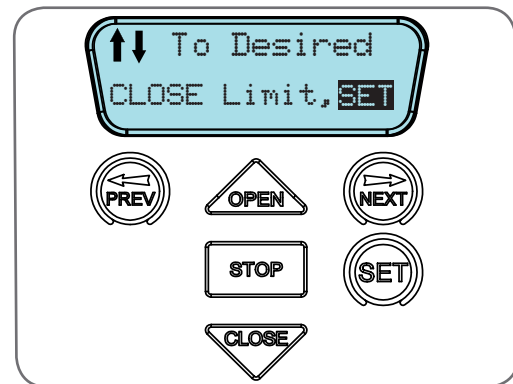

Fig 8.1
- b. After a short delay the MAIN SCREEN (Fig. 8.1) will be displayed. If this is the first time the Axess® Pro 1505 is being used, the MAIN SCREEN should enter into limit set mode and the blue close LED will be flashing. If the display shows that an input is active, then rectify the situation before continuing with the procedure for setting the travel limits. Press and hold the CLOSE button - the Door should start closing.